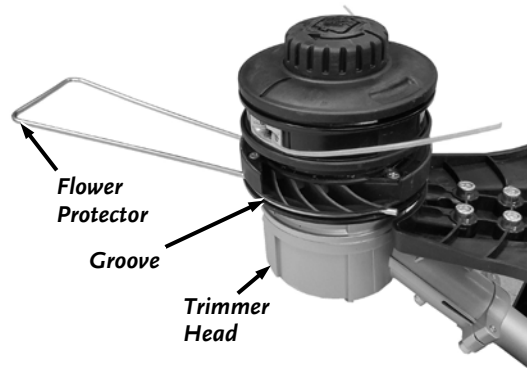

Figure 10
9. Clip the Flower protector into the mounting Groove on the Trimmer Head with the Guard angled down (**Figure 10**).